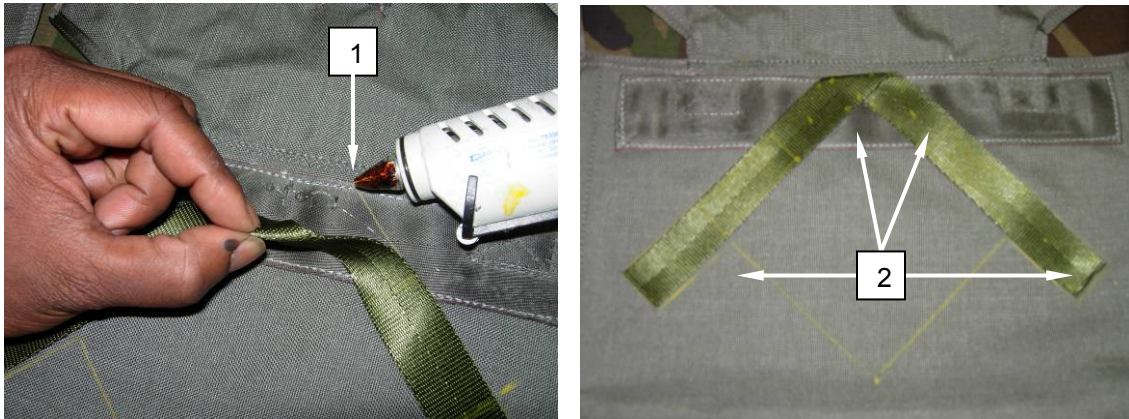

Figure 40. Diagonal Back Strap Keeper Proper Positioning.
13. Apply a small amount of glue on the reinforcement panel (Figure 40, Item 1) and location where the four box X stitch patterns (Figure 40, Item 2) will secure the diagonal back strap keeper onto the pack tray (Figure 40).